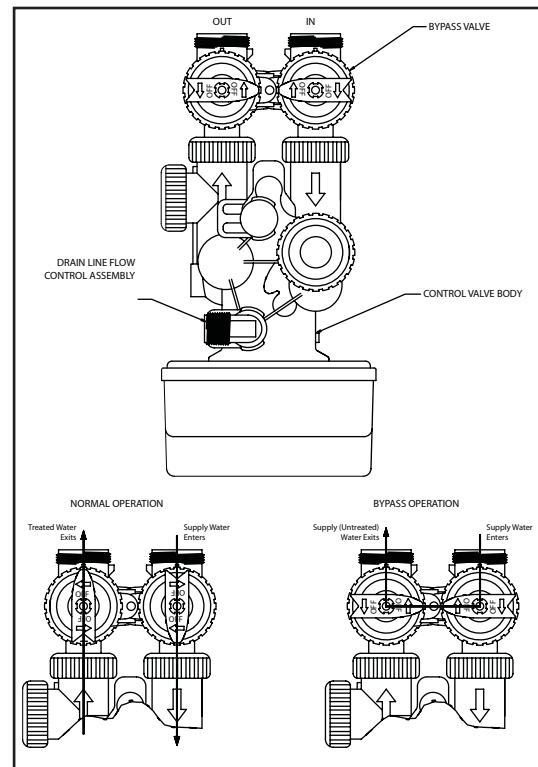
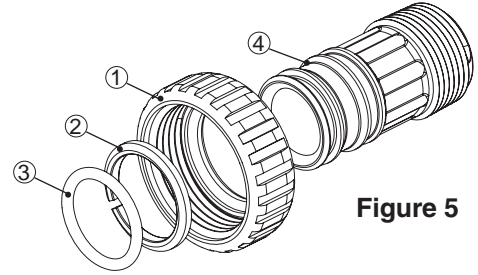

Figure 3
Figure 5
- 7) If your water source is a community water supply, a public water supply, or you wish to bypass water used for a geothermal heat pump, lawn sprinkling, out-buildings or other high demand applications, refer to Figures 3 or 7 for additional equipment required. Also refer to the Special Instructions on page 3-13.
Assemble and attach bypass valve to the control valve. See Figure 3 if needed. Next locate and assemble the 1" NPT connection fittings before attaching them to the bypass valve. Use the appropriate method of connection to ensure a permanent connection. Please refer to figure 5 to correctly assemble the connection fittings. Install the fitting into the bypass valve, attach the plumbing to the 1" NPT male connection fittings, hand tighten the fittings nuts only. Make certain the water enters inlet and discharges through the outlet side of the bypass valve. Arrows can be viewed on the bypass valve to confirm the correct flow path. At this time make certain the bypass valve is in the bypass position and leave in that position until instructed to place in the service position. Refer to Figure 3 for proper operation.
Once the valve is in the backwash position (C1 appears on the display) slowly open the inlet side of the bypass valve to allow water to flow into the filter vessel. Water should start to flow into the drain. Allow for any air that might have been trapped to leave the filter and go to drain. This will be detected by changes in noise in the drain line or is visible in the semi-transparent tubing. Once the air is entirely gone slowly increase the water flow to drain by opening the inlet side of the bypass valve until fully open. Refer to **Figure 3** for correct positioning. At the end of C1 position the water should be clear. If not, allow the valve to complete the manual regeneration process and initiate once again. It is very important to allow the unit to purge all fines to the waste drain from the media in the filter vessel prior to using the water. Once the flushing process has been completed you now can open the outlet side of the bypass valve to allow for filtered water to flow into the dwelling.